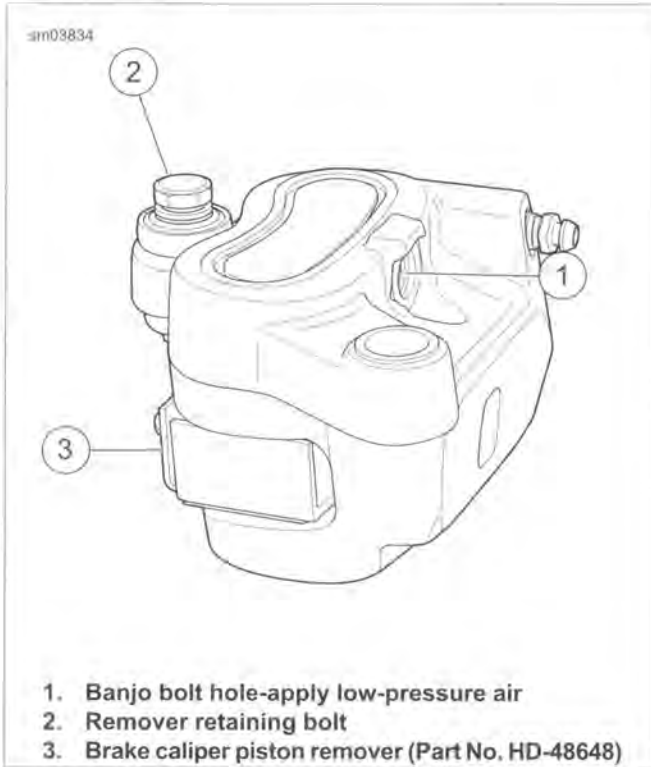

Figure 2-67. Removing Pistons
3. See Figure 2-67. Remove pistons.
- a. Place BRAKE CALIPER PISTON REMOVER (Part No. HD-48648) (3) into caliper housing. Install bolt (2) finger-tight.